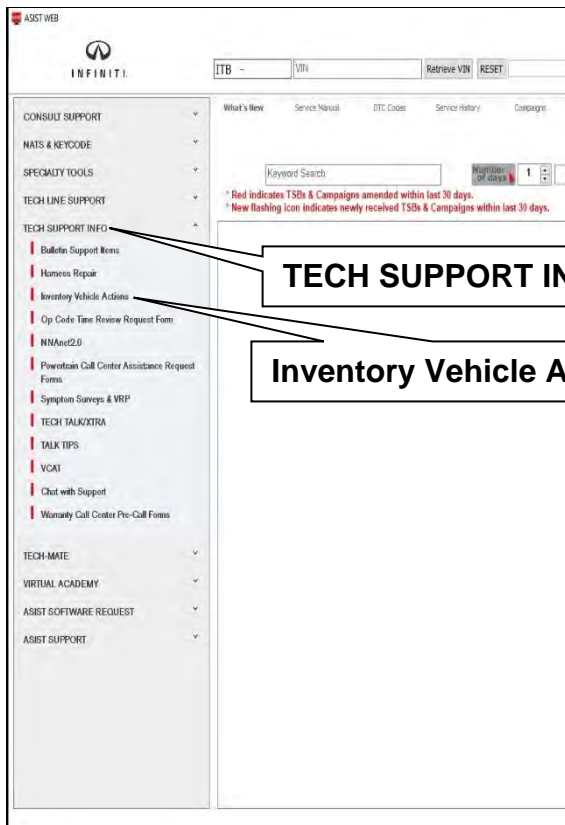

Figure 8
5. On the left side of the ASIST main menu (Figure 8), select **TECH SUPPORT INFO**, then **Inventory Vehicle Actions**.